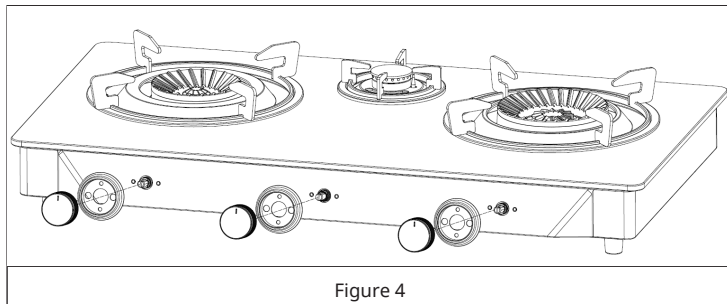

Figure 4
4. Install the knob base and knob correspondently (Figure 4).